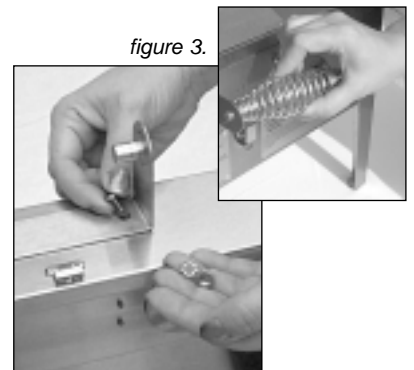

figure 3.
**2.** Refer to figure 3. Select the following parts for assembly: